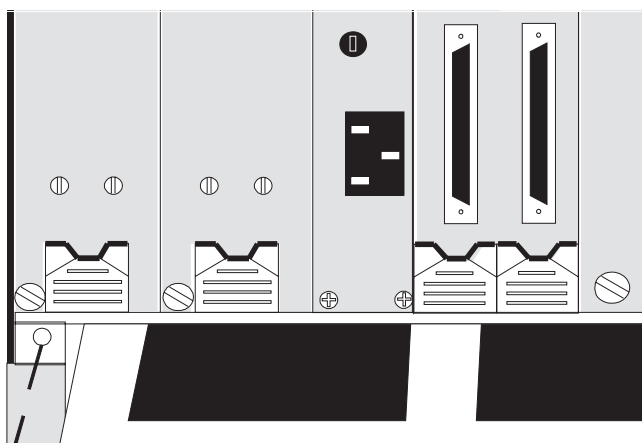

Figure 2-8 Installing / removing the thermal management unit
- 1 With the grill at the front of the fan tray towards you and the cut-outs in the top of the tray facing upwards, guide the unit into the MSH chassis until it is fully home. See Figure 2-8.
- 2 With a screwdriver tighten the two captive screws. The captive screws are shown removed from the unit in Figure 2-8 for clarity.
Refer to Figure 2-8.